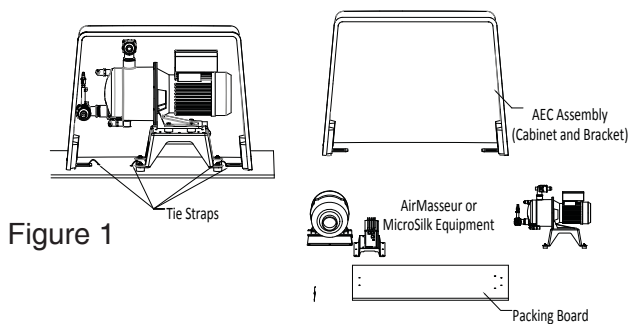

Figure 1
1. Remove the preassembled AEC assembly from the carton and detach all components from the packing board by removing the tie straps. See Figure 1